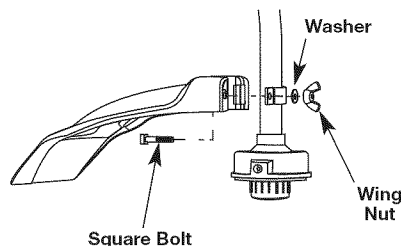

Fig. 2
2. From inside the cutting head shield, push the square bolt through the hole until the threaded end protrudes through the guard mounting bracket (Fig. 2).